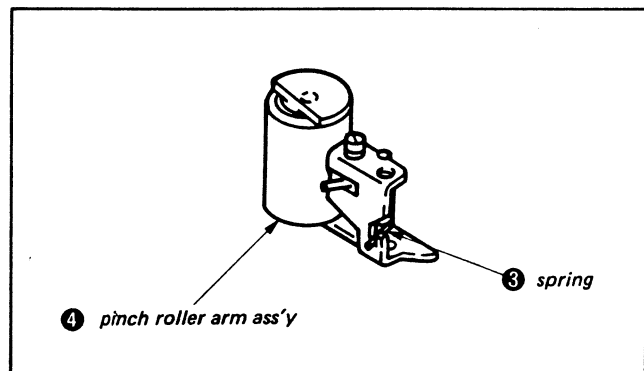
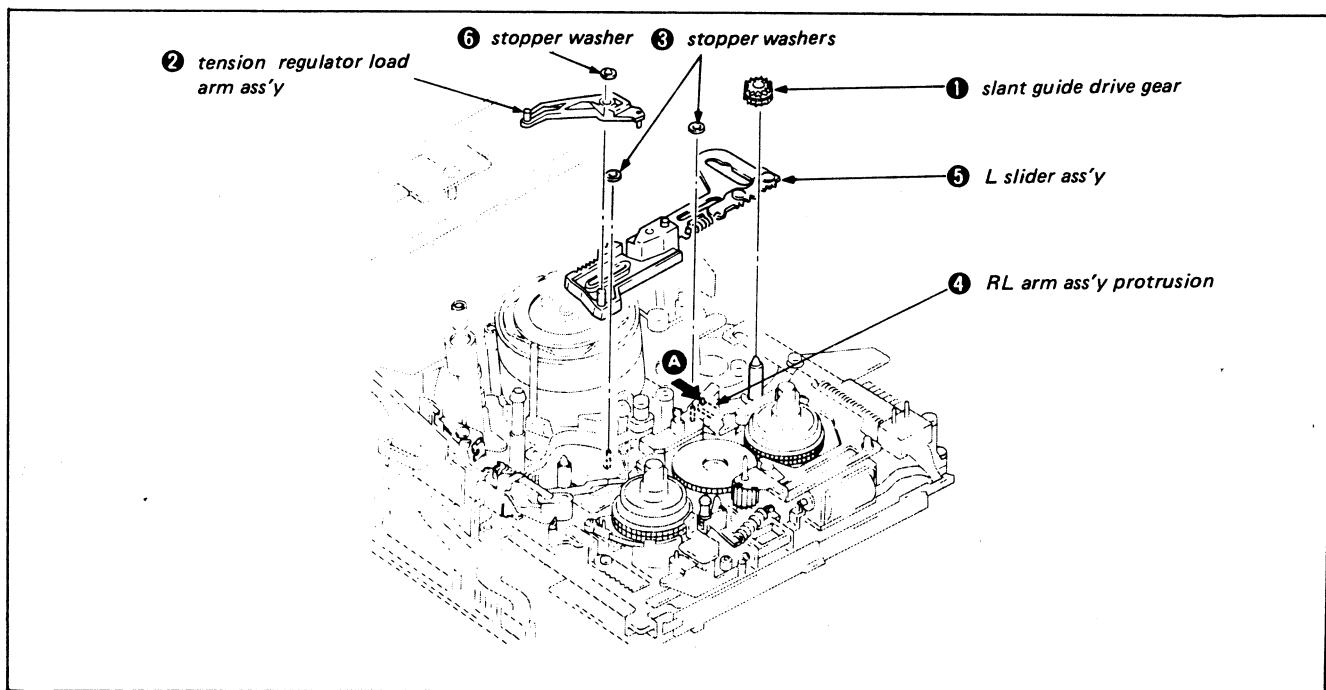
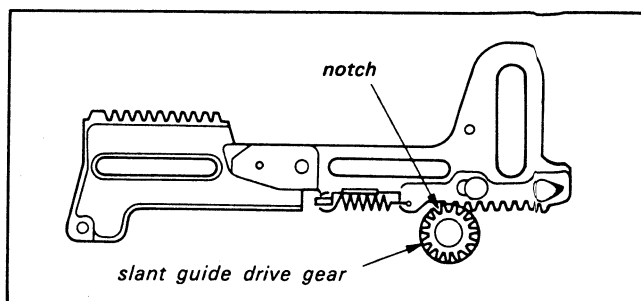
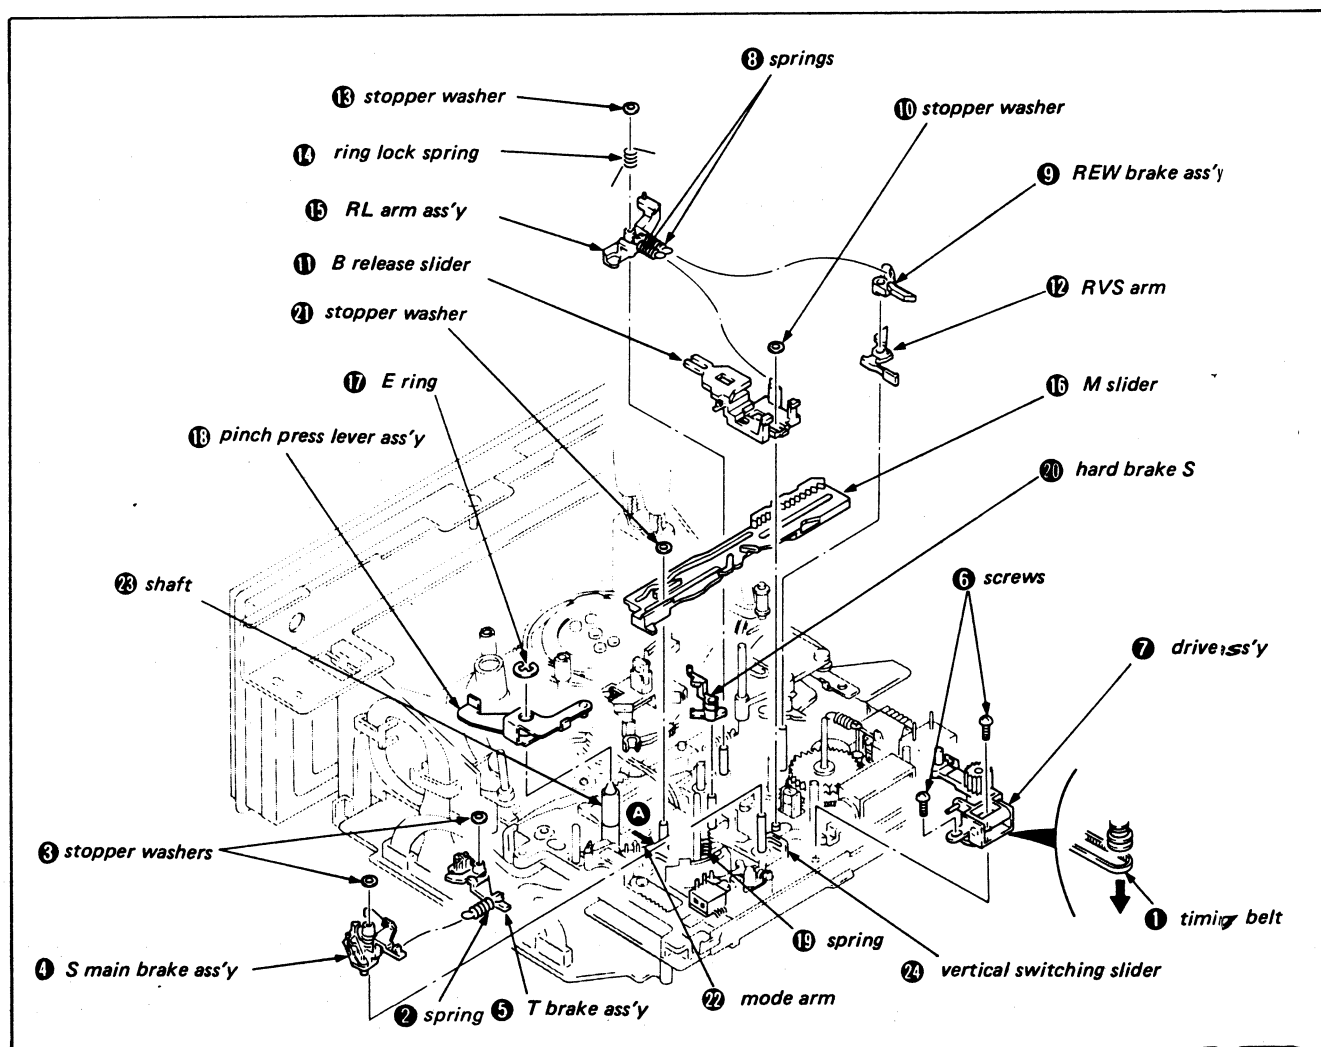

Fig. 3-15.
Fig. 3-26.
Fig. 3-28.
Fig. 3-36.
- 1) Position spring ③ (See Fig. 3-15)
Note: At this time, confirm the engagement position of the slant guide drive gear and L slider assembly gear. (Fig. 3-28)
- 6) Remove the two stopper washers ③.
- 7) Remove the L slider assembly ⑤ while pushing the RL arm assembly protrusion ④ in the direction of arrow A.
- 8) Remove the stopper washer ⑥ and the tension regulator load arm assembly ②. (Fig. 3-26)
- 2) Mount the tension regulator load arm assembly ② and the stopper washer ⑥. (Fig. 3-26)
- 3) Mount the L slider assembly ⑤ while pushing the RL arm assembly protrusion ④ in the direction of arrow A.
- 4) Put the tension regulator load arm assembly ② pin into the M slider groove. (See Fig. 3-15, M slider)
- 5) Mount the two stopper washers ③.
- 6) Refer to 3-4., 2. Mounting, 2), and place the tension regulator load arm assembly ② pin in the tension regulator arm assembly cam groove.
- 8) Engage the slant guide drive gear so that the notch is 1 tooth away from the L slider assembly left side tooth. (Fig. 3-28)
- 7) Remove the tension regulator load arm assembly according to 3-11., 1. Removal, 8). (Fig. 3-26)
- 8) Remove spring ②.
- 9) Remove the two stopper washers ③ and remove the S main brake assembly ④ and T brake assembly ⑤.
- 11) Remove the two screws ⑥ and the drive assembly ⑦.
- 13) Remove the two springs ⑧.
- 14) Remove REW brake assembly ⑨.
- 15) Remove stopper washer ⑩ and B release slider ⑪.
- 16) Remove RVS arm ⑫.
- 17) Remove stopper washer ⑬ and ring lock spring ⑭ and RL arm assembly ⑮.
- 18) Move the M slider ⑯ to the right (leave about 5 mm at the left.)
- 19) Remove the E ring ⑰ and the pinch press lever assembly ⑱.
- 20) Remove spring ⑲ and the hard brake S ⑳.
- 21) Remove stopper washer ㉑, push the mode arm ㉒ in the direction of arrow ㉓, and lift up the left side of the M slider ⑯ to remove. (See Fig. 3-36)
- 15) Mount T brake assembly 5 and S main brake assembly 4. Mount the two stopper washers 3 and the spring 2. (See Fig. 3-36)